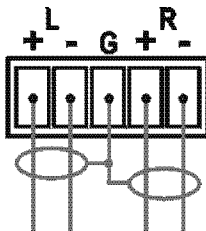

Figure 3: Connecting the Balanced Stereo Audio Output
- A balanced stereo audio connection, see Figure 3